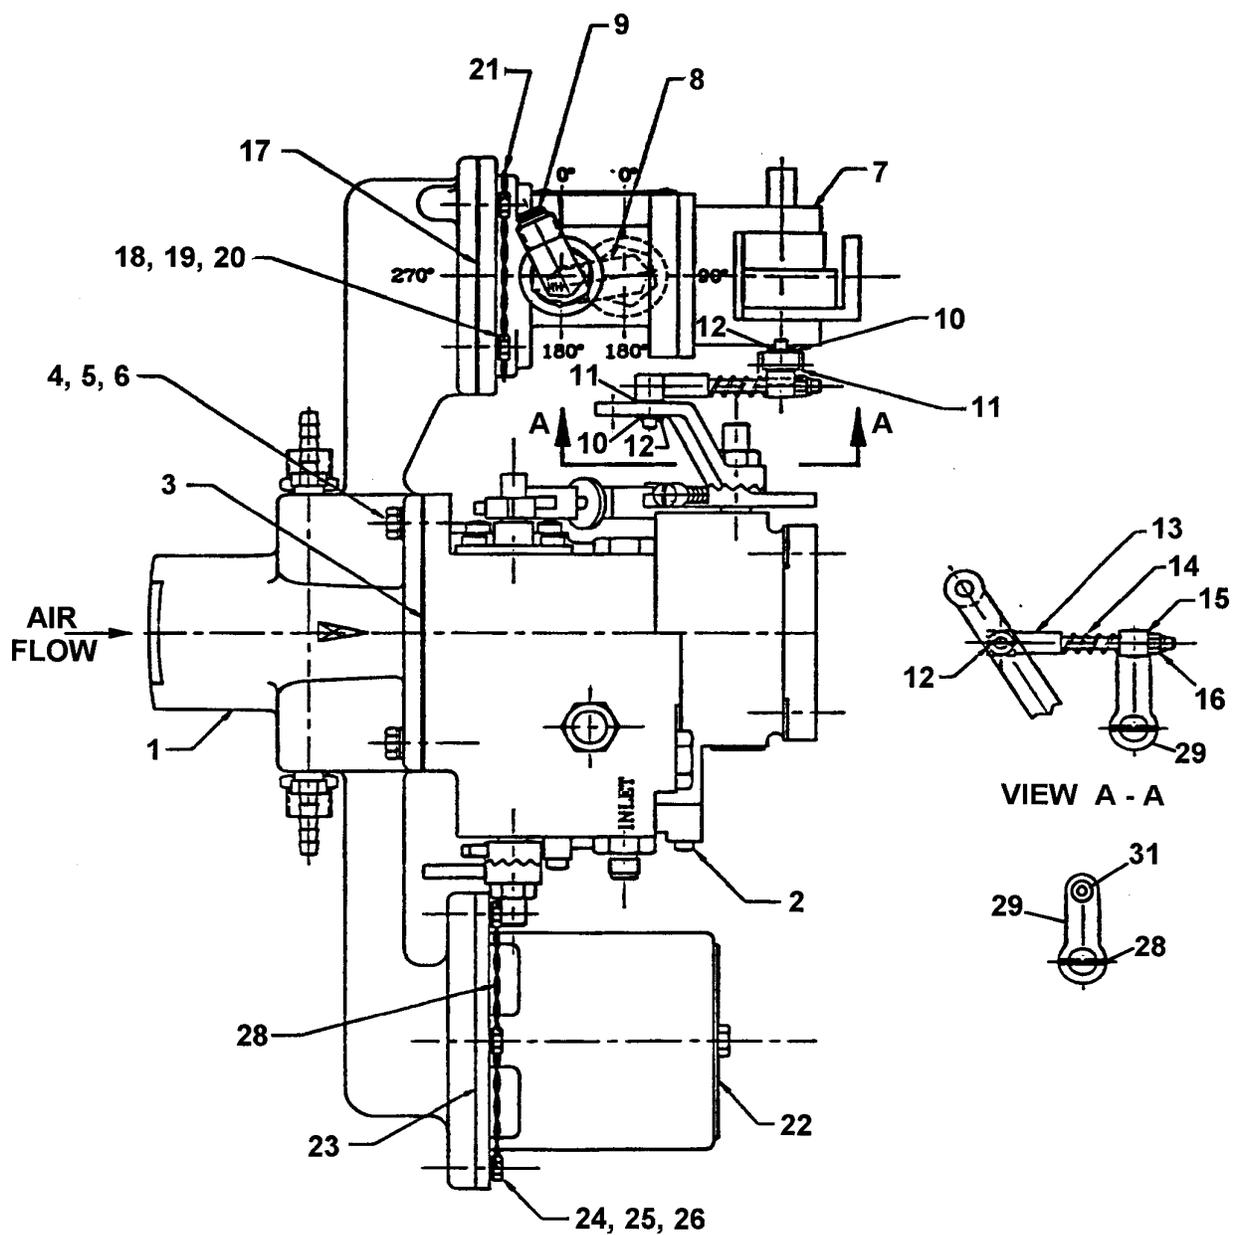

FIGURE 9-3. AIR THROTTLE ADAPTER, FUEL SERVO, CONTROLLER AND OVERBOOST VALVE
1. See Figure 9-3, "Adapter, Fuel Servo, Controller & Overboost Valve." Remove controller (7) from air throttle adapter assembly (1):
- b. Record rod end position on rod and link assembly by counting exposed threads of nut (16). Remove nut (16) from rod and link assembly (13).
- c. Remove cotter pin (12) and plain washer (10) from rod end (15). Discard cotter pin (12).
- d. Remove wave washer (11), rod end (15), and spring (14) from rod and link assembly (13). Discard wave washer (11) and spring (14).
- e. Remove rod and link assembly (13) by removing cotter pin (12), plain washer (10), and wave washer (11). Discard cotter pin (12) and wave washer (11).
- f. Remove swaged lever pin (28) from lever (29) and remove lever from the controller (2). Discard pin (28).
- g. Remove four phillips head screws (6), four lock washers (5), and four washers (4). Discard lock washers (5).
- h. Remove controller (2) from air throttle adapter assembly (1).
- i. Discard controller gasket (3).
2. See Figure 9-3, "Adapter, Fuel Servo, Controller & Overboost Valve." Remove overboost valve (22) from air throttle adapter assembly (1):
- b. Remove four phillips head screws (26), four plain washers (24), and four lock washers (25). Discard lock washers (25).
- c. Remove overboost valve assembly (22) from air throttle adapter (1).
- d. Discard "O"ring seal (23).
3. See Figure 9-3, "Adapter, Fuel Servo, Controller & Overboost Valve." Remove fuel servo assembly (2) from air throttle adapter assembly (1):
- a. Remove cap screws (6), four plain washers (4), and four lock washers (5). Discard lock washers (5).
4. See Figure 9-3, "Air Throttle Adapter, Fuel Servo, Controller And Overboost Valve." Install fuel servo assembly (1):
5. Install new gasket (3) and fuel servo assembly (2) on air throttle adapter (1) using four screws (6), four new lock washers (5), and four plain washers (4). The .88 inch long screws go in the lower holes and the .75 inch long screws go in the upper holes. Torque screws (6) to 75 - 85 inch pounds.
6. See Figure 9-3, "Air Throttle Adapter, Fuel Servo, Controller And Overboost Valve." Install new o-ring seal (23) and overboost valve (22) on air throttle adapter assembly (1). Secure overboost valve using four 10-24 screws (26), four new lock washers (25), and four plain washers (24). Torque screws (26) to 21 - 25 inch pounds. Safety wire screws (26) in accordance with Section 4-2, "Lockwire Procedure."
7. Install lever assembly on controller (29):
- a. Install lever (29) on controller (2) shaft.
- b. Install new lever pin (28) through lever (29) and through controller shaft. Swage pin on both ends using a swage fixture, pin punch and ball peen hammer.
8. See Figure 9-3, "Air Throttle Adapter, Fuel Servo, Controller And Overboost Valve." Install turbocharger controller (7):
- a. Install new controller gasket (17) and controller and lever assembly (7) on air throttle adapter assembly (1) with four screws (18), four new lock washers (19) and four plain washers (20). Torque screws (18) to 21 - 25 inch pounds. Safety wire screws (18) in accordance with Section 4-2, "Lockwire Procedure."
9. See Figures 9-3 and 9-8. Install rod and link assembly (13):
- a. Assemble new spring (14) on rod and link assembly (13) and insert end through rod end (15). Install new self-locking nut (16) on threaded end of (13). Adjust rod and link assembly to original length as recorded.
- b. Lubricate rod pin using Shell #5 or Lubriplate #630AA or equivalent. Assemble one new wave washer (11) on rod end (15).
- c. Insert rod end (11) through lever (29) and bushing (31). Attach rod end (15) using plain washer (10) and new cotter pin (12).
- d. Assemble one new wave washer (11) on free end of rod & link assembly (13).
- e. Insert free end of rod and link assembly (13) into hole on throttle control arm of fuel servo assembly.
- f. Install one plain washer (10) and one new cotter pin (12).